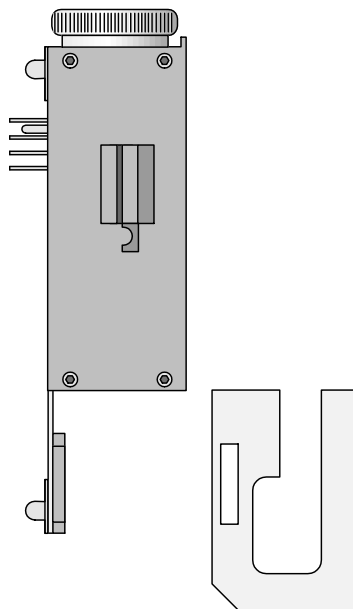

Figure 14. Grid removed from the Syringe Heater Unit.
3. Insert the assembled ITEX-2 syringe into the Syringe heater as shown below. For enhanced access, remove the grid from the syringe heater, as shown in Figure 14.